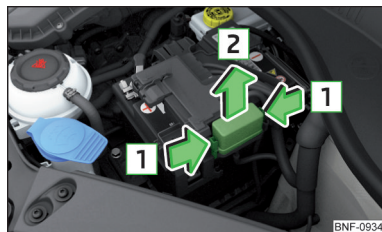

Fig. 169
The fuses are located underneath a cover next to the vehicle battery » Fig. 169.
- Press the locking keys **1** of the cover » Fig. 169 together simultaneously.